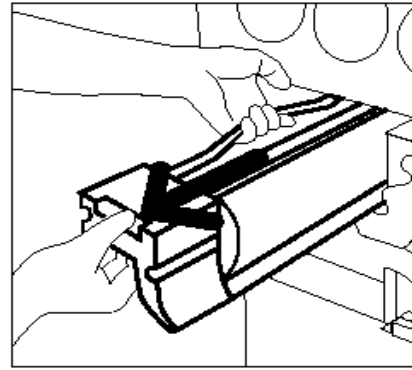

Figure 30: Removing the Copy/Print Cartridge and grasping the Strap
- 3** Grasp the Copy/Print Cartridge gold handle release with your right hand and push up to release the latch, as illustrated in Figure 30. Pull the cartridge out slowly until the strap on top of the Copy/Print Cartridge is visible.
- 4** Grasp the strap with your left hand and remove the cartridge completely out of the copier/printer, as illustrated in Figure 30.